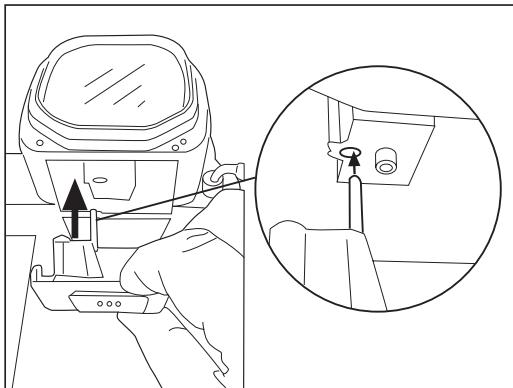

Fig. 19
- Replace the hopper on the machine body by pressing until the clips engage (**Fig. 19**)
NOTE: the hopper cylinder must be inserted into the hole provided (**Fig. 19**)